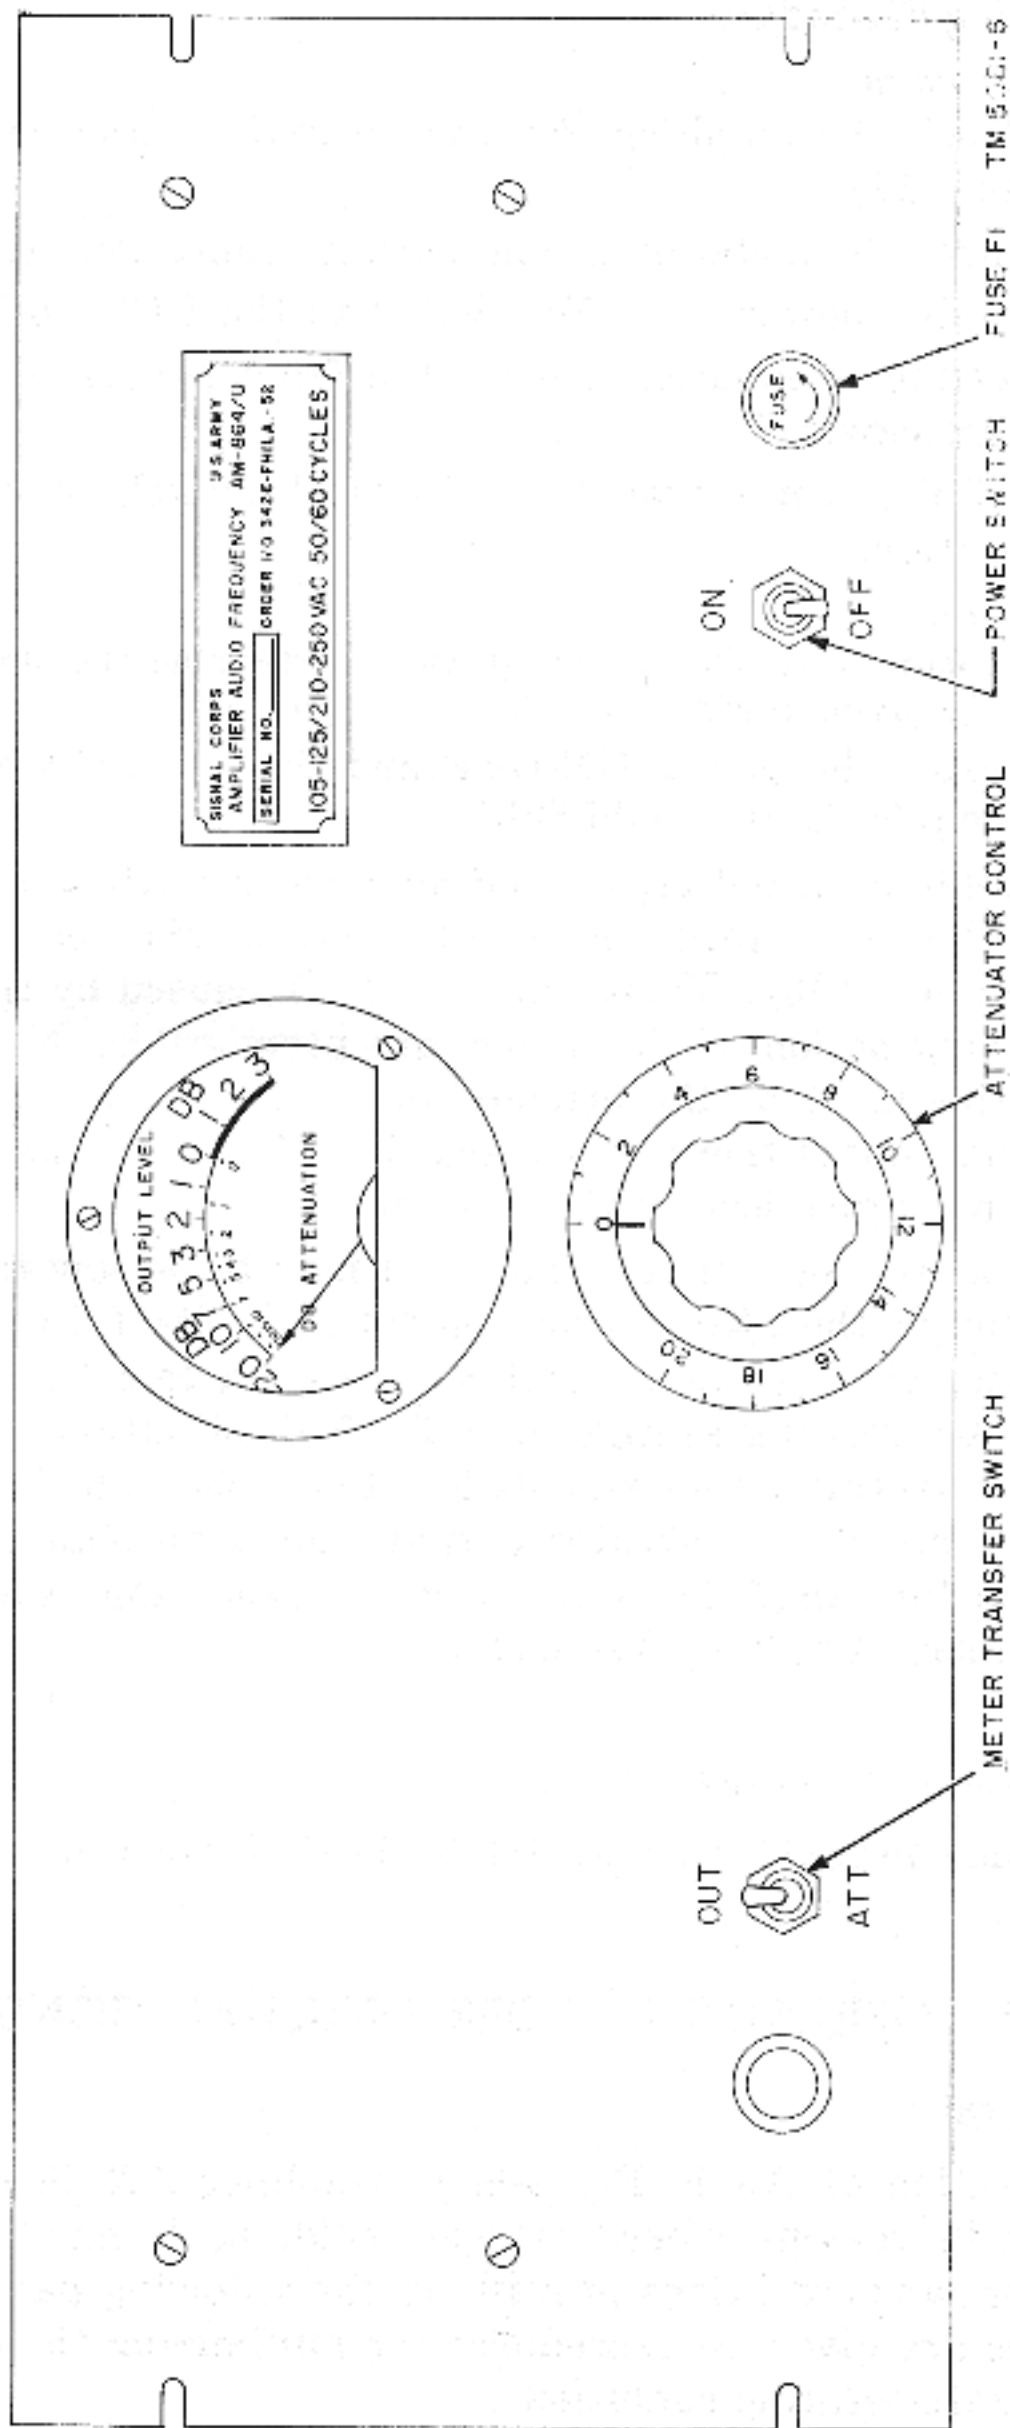

Figure 6. Audio Frequency Amplifier AM-864/U, front panel.
c. All controls required for the operation of the amplifier are located on the front panel (fig. 6). These controls consist of two switches (one to turn the amplifier ON and OFF, and the other to transfer the meter on the front panel from ATT to OUT position) and an attenuation control which adjusts the attenuation of the amplifier. The fuse and panel light are located on the front panel.
f. Check FUSE F1 (fig. 6) for proper value (1 ampere).